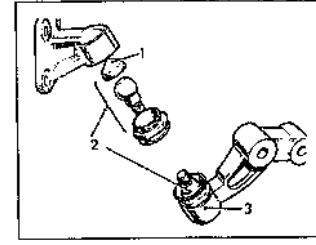

Fig. 11.10 Leveling unit balljoint components (Sec 11)
- 3 Clean out the balljoint seat and housing (Fig. 11.10).